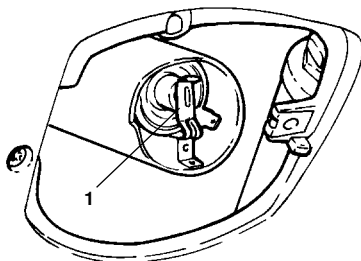

Fig. 45
- Spostare la linguetta (1 - Fig. 45) ed estrarre la lampadina fulminata.
- Remove the bulb holder (1 - Fig. 45), extract the bulb and change it.